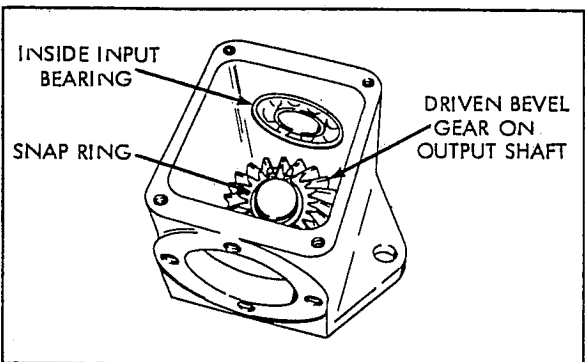

Figure 9-13 Bearing Removal
7. The ball bearing that supports the inner end of the input shaft (Figure 9-13) is removed by holding the housing in the hand and tapping the housing sharply on the outside with a soft mallet behind the bearing. It may at times be necessary to heat the housing to remove this bearing.